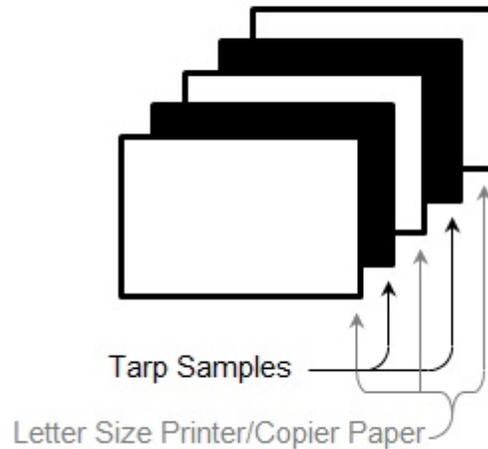

Figure 4: Sandwich the layers of tarp between layers of clean creaseless printer/copier paper.
- 3.6 Continue to add samples to the stack (without folding or rolling); alternate a sheet of paper with a sample. Begin and end the stack with a sheet of paper. (Figure 4).